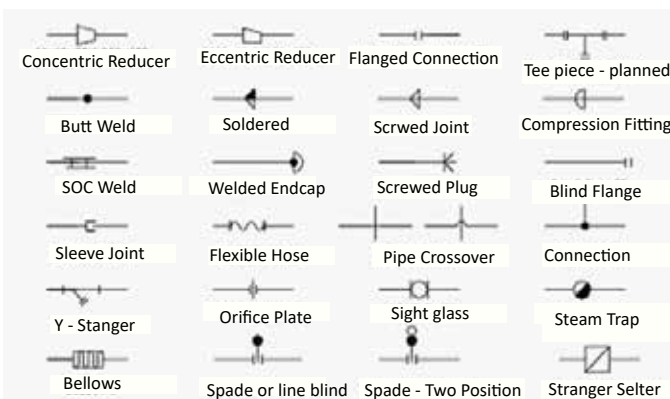

Fig. 1.2.33 – Line fittings symbols
- c. Isometric symbol representation of various valves based on mode / method of operation and function, have been illustrated in Fig. 1.2.33.